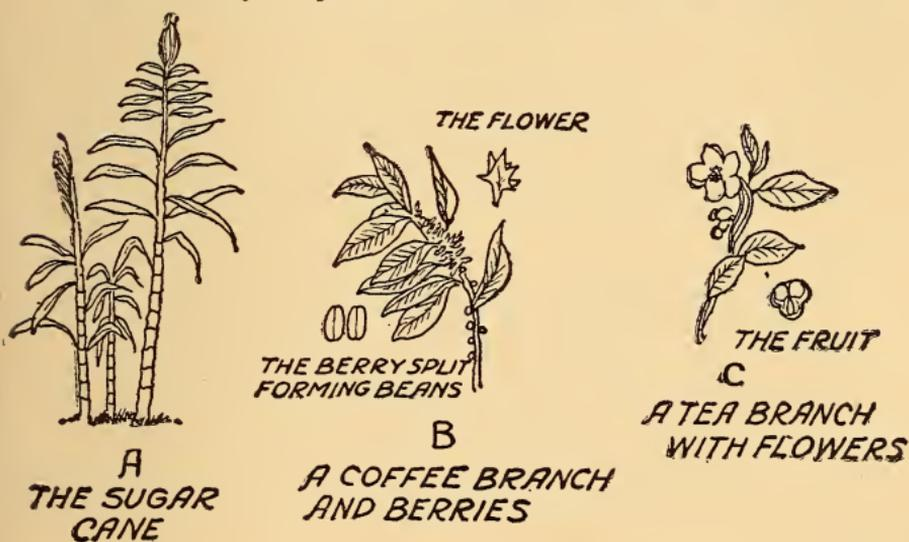

FIG. 21. SUGAR AND COFFEE AND TEA
**The Sweetness Called Sugar.**—The sweet compound called *sugar* ( $C_{12}H_{22}O_{11}$ ) is obtained almost entirely from the *sugar cane*, see A in Fig. 21, and the *sugar beet*.